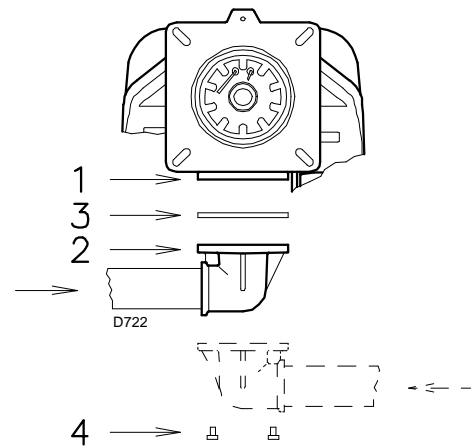

Fig. 14
- The gas train must be connected to the gas attachment 1) (Fig. 14) with the flange 2), the gasket 3) and the screws 4) supplied with the burner.